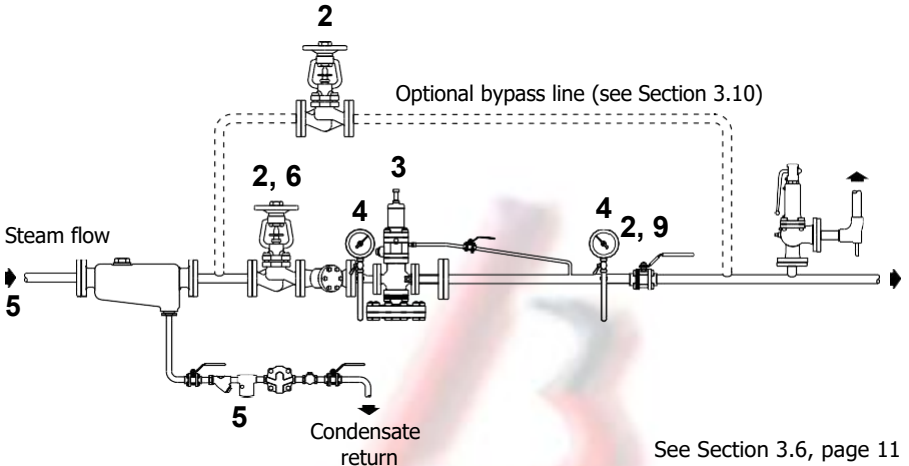
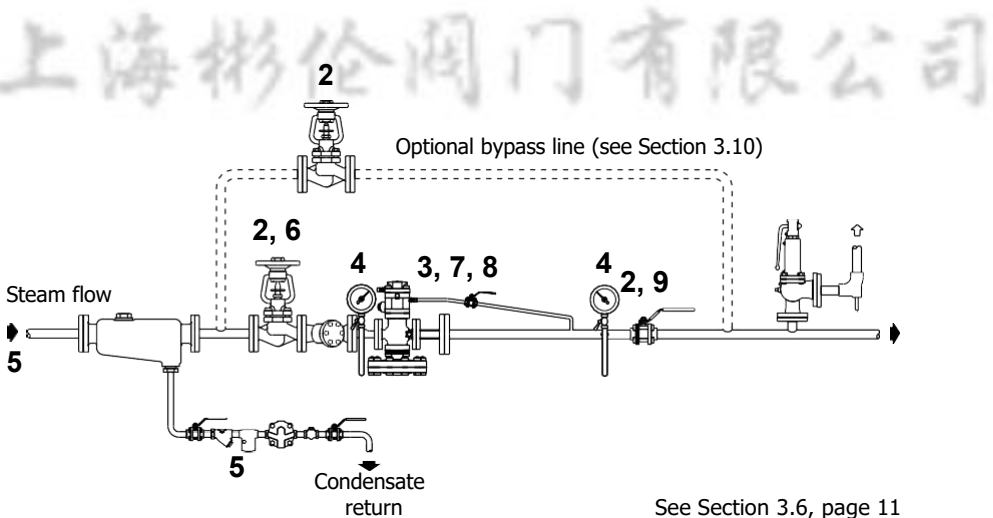

Fig. 8 Setting procedure sequence DP27, DP27E and DP27Y
Fig. 9 Setting procedure sequence DP27R
The actuating air supply controlled by the regulator should be connected to the union fitting attached to the air control block as shown in Figure 4. The air inlet connection is suitable for 6 mm O/D copper tube. The maximum reduced pressure available through the DP27R is 15 bar g. Typical installation is shown in Figure 9, page 15.
For continuous duty applications where a constant steam supply is essential then a parallel stand-by PRV station is recommended to allow for planned maintenance, see Figure 5, page 11. Alternatively a bypass line can be used (see Figures 8 and 9, page 15). It is important that the bypass should have a similar capacity to the pressure reducing valve which is achieved by choosing an appropriately sized valve or by using a reduced orifice in the line.
4.1 Setting procedure (Figure 8 and Figure 9)
DP27, DP27E and DP27Y (Figure 8)
DP27R (Figure 9)